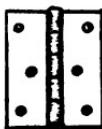

FIG. 43.
**Butt Hinges.**—Of the many kinds of hinges, the commonest is the butt hinge, Fig 43, which consists of two wings of equal size joined together by being looped at their edges to a wire on which they turn. Butt hinges are distinguished as to size by the length of the wing measured parallel to the wire: thus there are 2-inch hinges, 4-inch hinges, &c. Butt hinges are used for various articles; but a door may be taken as a representative example for all. A door is perhaps the most difficult of all articles to hinge.